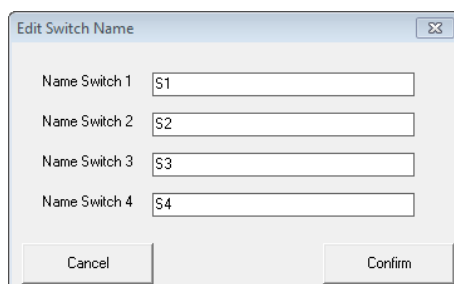

Fig. 37 Window "Edit Switch Name"
- 1) Click the button "Edit Switch Name". The dialog window "Edit Switch Name" is displayed (fig. 37).